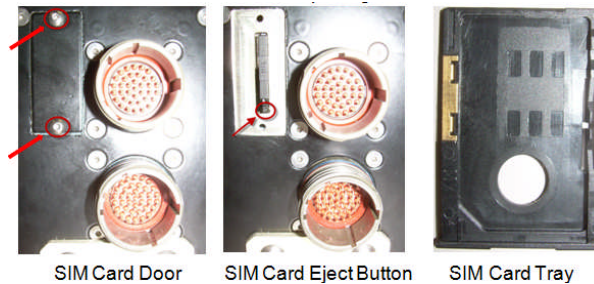

Figure 14: Cellular SIM Card
- 1) Ensure that the SIM Card is installed in the FAST Processor. This can be verified by removing the 2 hex screws (1/16) that secure the SIM Card Door located in the back of the FAST (Near J1 / J2). The SIM card tray can be ejected by pressing the small button at the bottom of the SIM Card Opening. Refer to Figure 14.